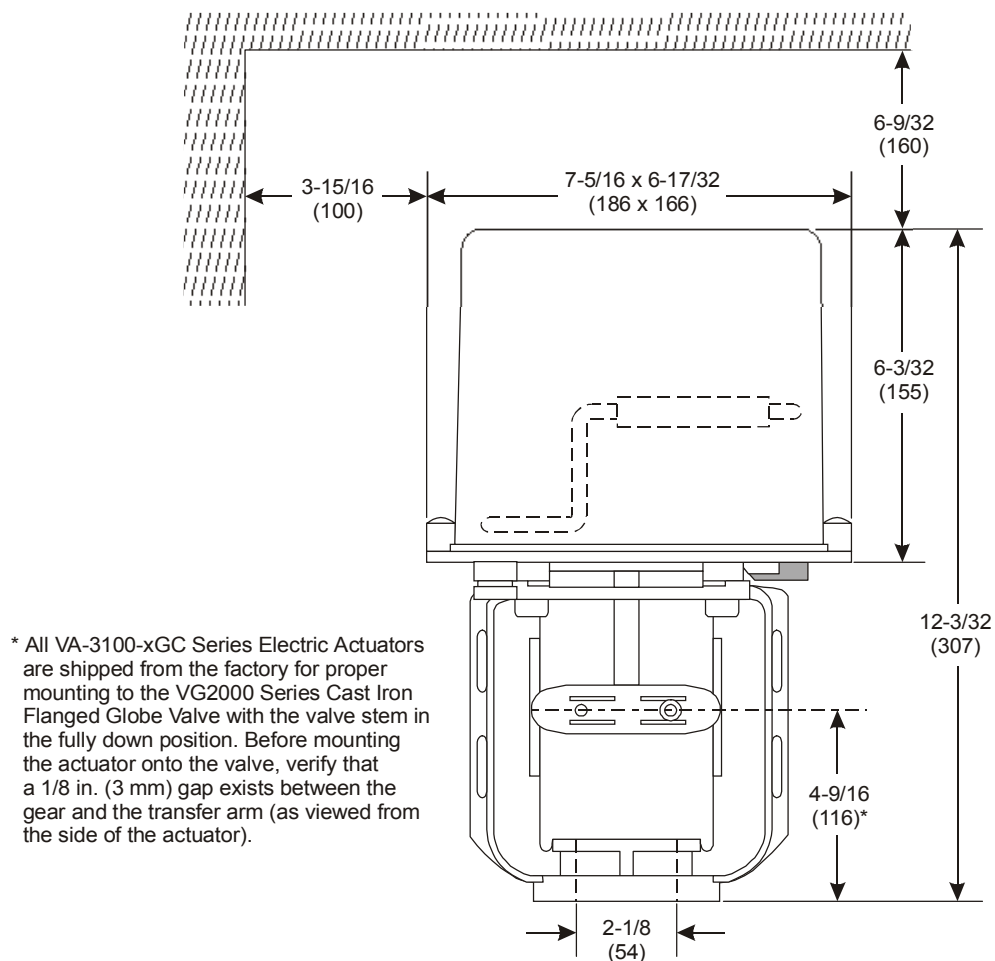

Figure 3: VA-3100 Series Electric Valve Actuator Dimensions, in. (mm)
- Allow sufficient clearance to remove the actuator (as illustrated in Figure 3).